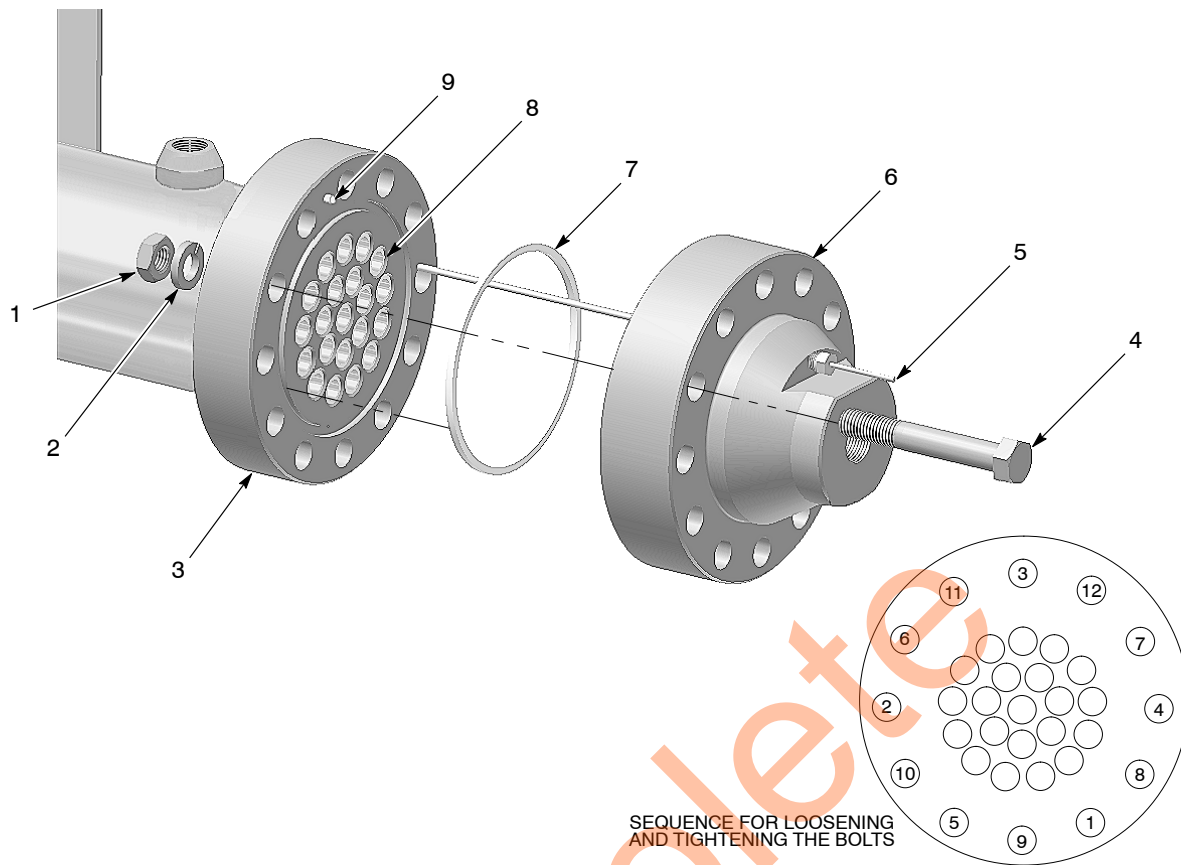

Figure 10 Heat Exchanger Disassembly
2. See Figure 10. Use a 14-mm or 1/2-in. wrench to unscrew and remove the RTD (5) from the heat exchanger head. The RTD is 12 in. long.
4. See Figure 10. Using the loosening sequence shown, remove the bolts (4), lock washers (2), and nuts (1) from the head assembly (6). Remove the head assembly.
5. Remove and discard the O-ring (7).
1. See Figure 10. Clean the head assembly (6), tube sheet head (9), and O-ring groove with a putty knife, clean rags, and a compatible solvent. Be careful not to damage the machined surfaces or O-ring grooves.
2. Push the 1/2-in. steel rod into each each tube (8) to remove coating material.
1. See Figure 10. Install a new O-ring (7) into the groove on the tube sheet (3).
2. If removed during cleaning, install the alignment pin (9) into the tube sheet head (3).
3. Apply Loctite 242 or 248 thread adhesive to the threads of the bolts (4).
4. Align the head assembly (6) to the alignment pin (9). Install the head assembly onto the tube sheet (3) using the bolts (4), lock washers (2), and nuts (1). Only hand-tighten the nuts and bolts.